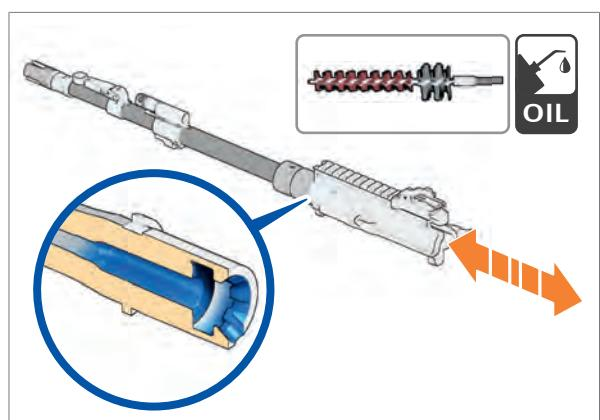

Fig. 108: Clean chamber and locking piece
16. Pull oiled chamber cleaning brush through the chamber and locking piece several times (Fig. 108).